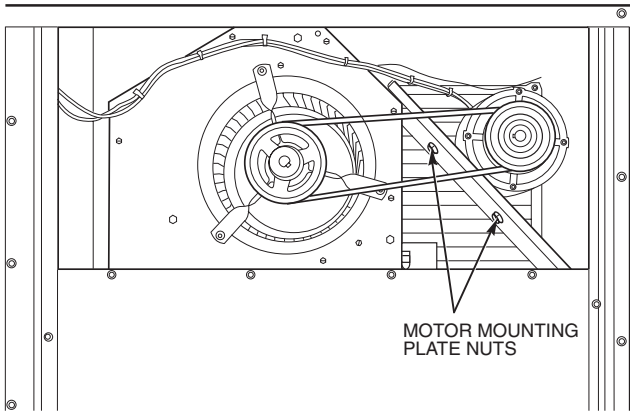

Fig. 40 — Typical Belt-Drive Motor Mounting for Sizes 008,009
2. Loosen belt by loosening fan motor mounting plate nuts (see Fig. 40 and 41).
To adjust belt tension (see Fig. 40 and 41):
2. *Units 008,009* — Slide motor mounting plate away from fan scroll for proper belt tension (1/2-in. deflection with 8 to 10 lbs of force) and tighten mounting nuts (see Fig. 40).